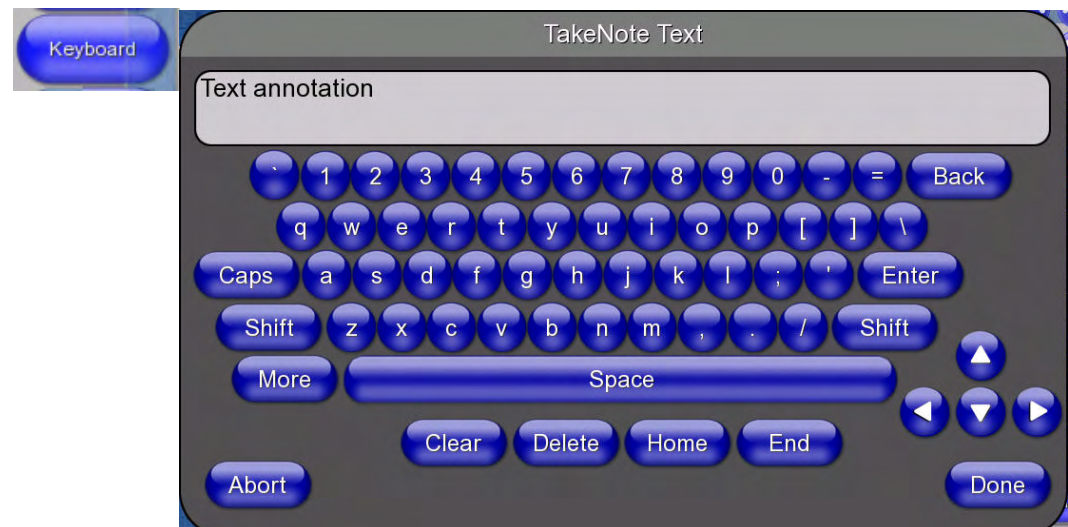

FIG. 115 TakeNote Text Keyboard
Click the **Keyboard** button in the TakeNote Menu Bar (see FIG. 100 on page 170) to access the TakeNote Text Keyboard shown in FIG. 115:
3. Press the **Keyboard** button to open the TakeNote Text Keyboard (see FIG. 115 on page 177).